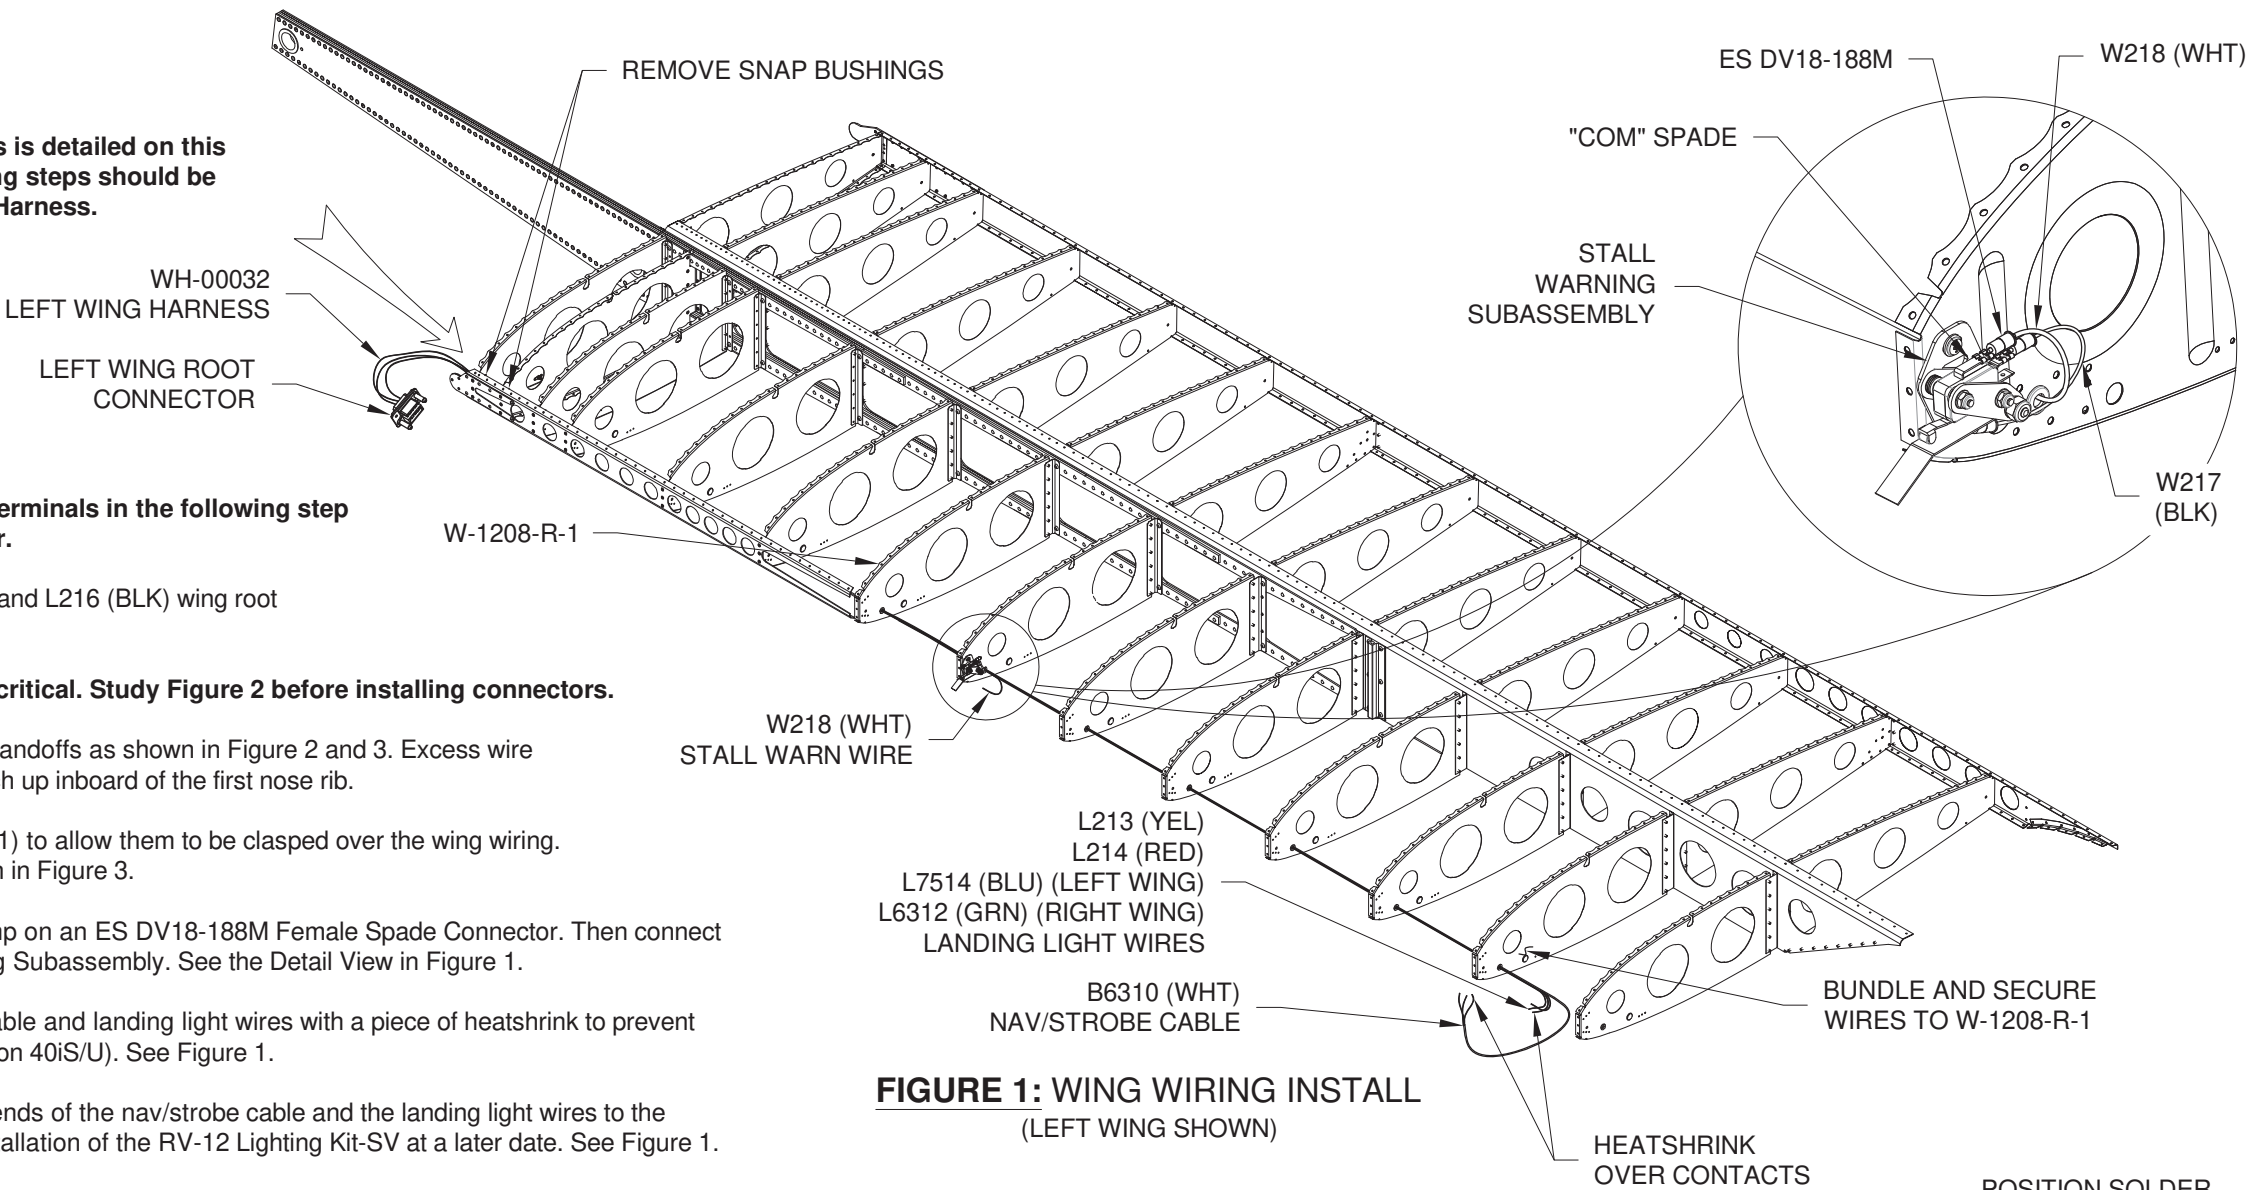

FIGURE 1: WING WIRING INSTALL
Step 6: Strip the end of the W218 (WHT) stall warn wire and crimp on an ES DV18-188M Female Spade Connector. Then connect the spade connector to the top "COM" spade of the Stall Warning Subassembly. See the Detail View in Figure 1.
Step 7: Cover each of the exposed contacts on the nav/strobe cable and landing light wires with a piece of heatshrink to prevent electrical shorts until the RV-12 Lighting Kit-SV is installed (Section 40iS/U). See Figure 1.
Step 8: Bundle and secure (to an airworthy condition) the loose ends of the nav/strobe cable and the landing light wires to the adjacent W-1208-R-1 where they can be easily accessed for installation of the RV-12 Lighting Kit-SV at a later date. See Figure 1.